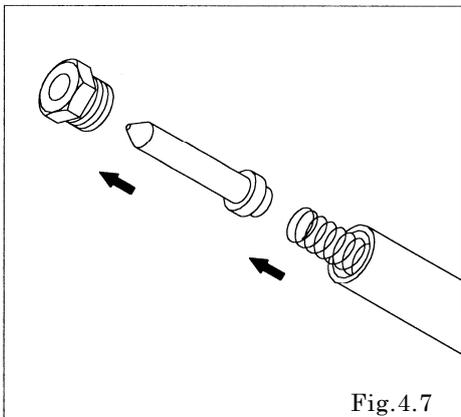

Fig.4.7
- Remove the nut, and remove the valve from the center rod. [Fig. 4.7]